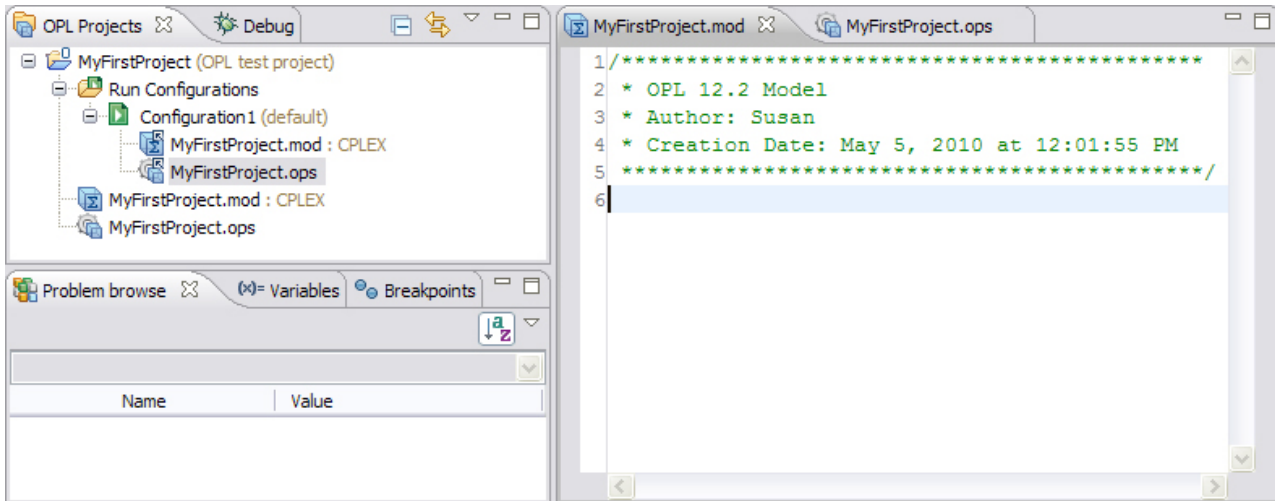

Figure 4. New project and new empty model in main window
- one run configuration (set to default) containing the model and settings files you have just created (see Figure 4).